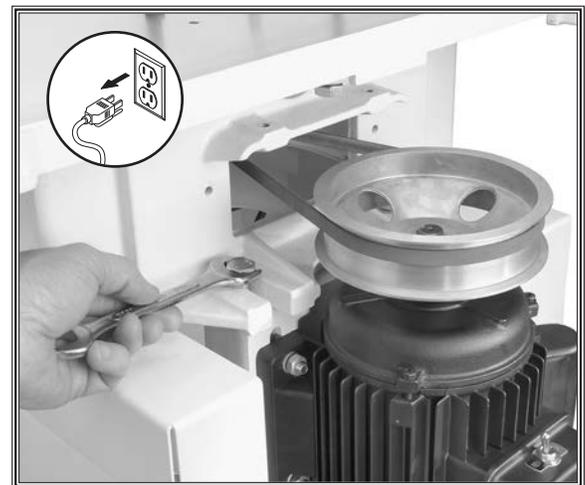

Figure 51. Adjusting belt tension.
You will need to remove the belt guard (see **Figure 51**) in order to perform the following steps.
3. Loosen both motor mount plate bolts (see **Figure 51**) and slide motor in or out to modify belt tension, while keeping the pulleys aligned.